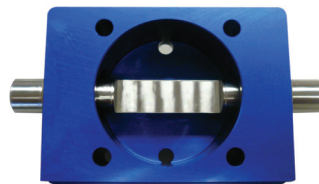

Figure 7
8. Adjust plunger slot position towards center and have slot facing work surface. Figure 7 shows plunger slot positioning.